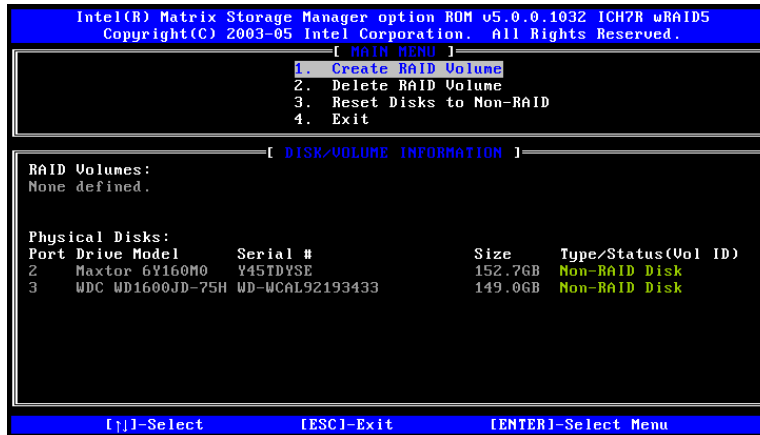

Figure F-1: Matrix Storage Manager Main Menu
- Step 1: Select “Create RAID Volume”.** Use the arrow keys to highlight **Create RAID Volume** and press **ENTER**. See **Figure F-1**.